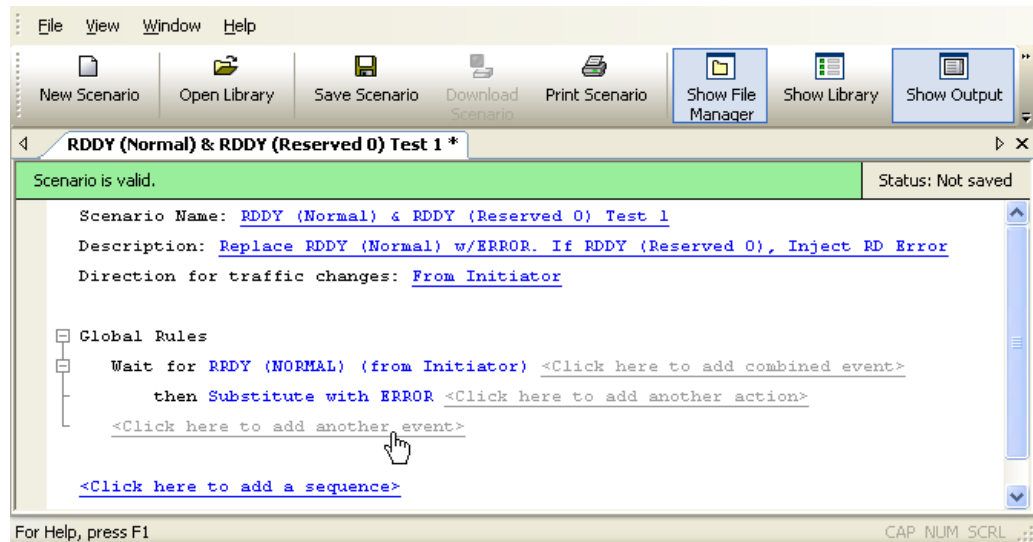

Figure 59 Example 4: Entering Second Event
Step 3 In the Global Rules area, click on the prompt to **add the next event** (keep in mind this is not a combined event) (Figure 59).